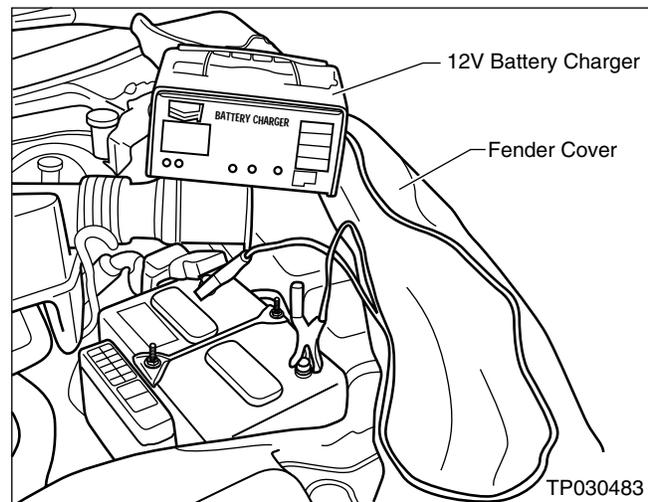

Figure C4
8. Connect a battery charger (or a "known-good" additional 12V battery) to the vehicle battery (see Figure C4).